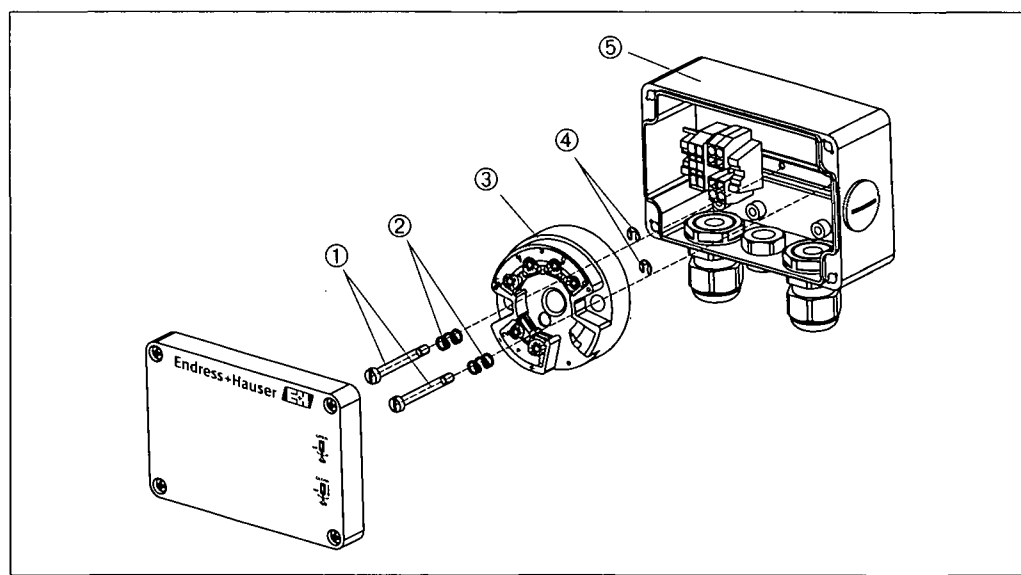

Fig. 6: Temperature head transmitter mounting, here illustrated with terminal box. Only open the terminal box with a screwdriver.
3. Push the adapter (item 5) over the extension cable and screw it tightly into the measuring aperture.
4. Push the sealing ring (item 3) and cover (item 2) onto the cable from above. Press the sealing ring into the cover.
5. Place the clamping sleeve (item 4) around the extension cable (item 1) in accordance with Figure 6.
6. Push the extension cable with the clamping sleeve (item 4) into the adapter (item 5).
7. Push the cover (item 2) and sealing ring (item 3) onto the adapter (item 5) and screw tightly to the adapter.